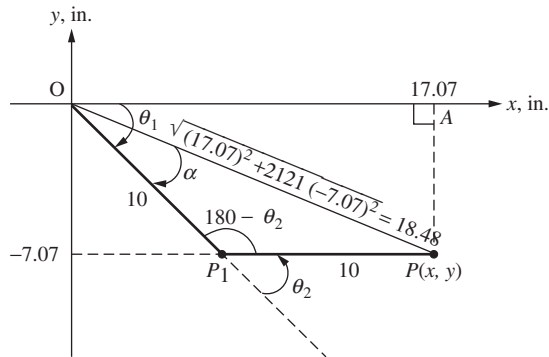

Figure 3.30 The triangle OP_1P to find the angles θ_1 and θ_2 .
- (b) The angle θ_2 can be found using the law of cosines on the triangle OP_1P shown in Fig. 3.30. The unknown angle $180^\circ - \theta_2$ and the three sides of the triangle OP_1P are shown in Fig. 3.30. Using the law of cosines gives
Since the robot is in the elbow-up configuration, angle $\theta_2 = \cos^{-1}(0.707) = 45^\circ$. Also, from Fig. 3.30, the angle $\theta_1 - \alpha$ can be determined using the right-angled triangle OAP as